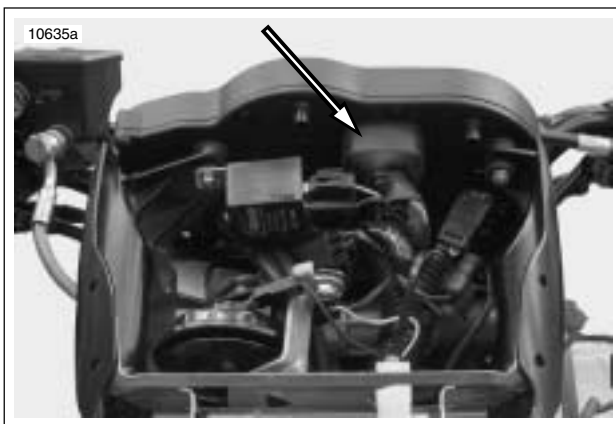
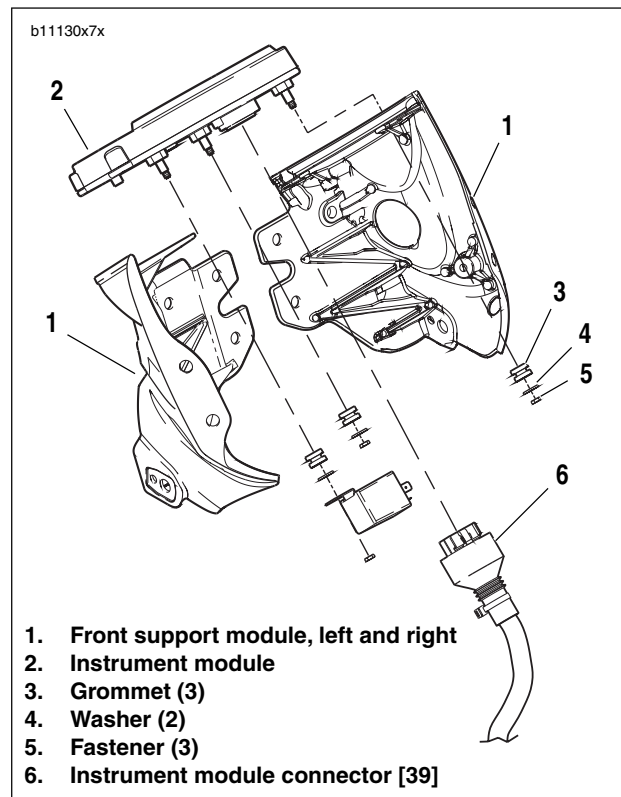

Figure 7-69. Instrument Module Connector [39]
Figure 7-70. Instrument Module
4. See Figure 7-69. Disconnect instrument module connector [39].
5. See Figure 7-70. Remove fasteners (5) and washers (4).
6. Pull instrument module (2) from front support module (1).
1. See Figure 7-70. Place instrument module (2) into position in front support module (1).
2. Install washers (4) and fasteners (5). Tighten fasteners to 12-36 **in-lbs** (1.4-4.1 Nm).
3. See Figure 7-69. Connect instrument module connector [39].